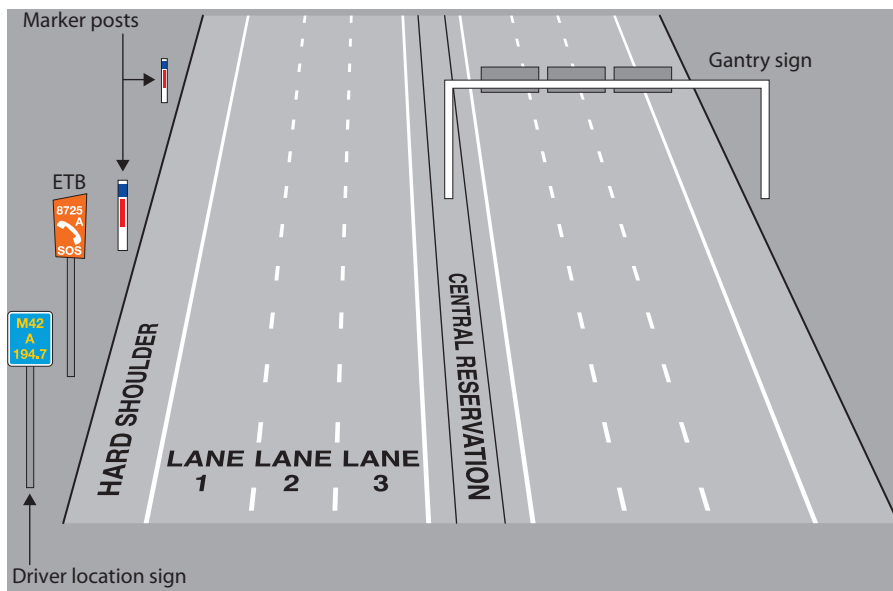

Figure 13.1 Layout of a multi-lane carriageway.
- ▶ **Flowing traffic:** ambulances should approach using the main carriageway whenever possible, usually in lanes two or three (see Figure 13.1). This allows other road users to react in a normal manner, moving left when seeing an approaching ambulance or hearing sirens. Do not use Lane 1 – this could cause drivers to move onto the hard shoulder where other vehicles may have stopped.